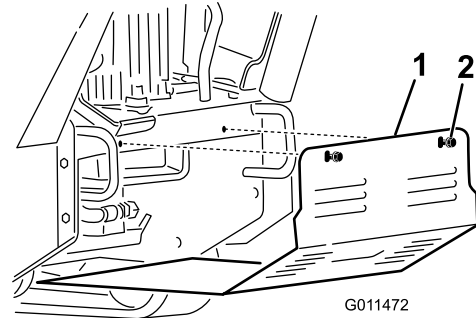

Figure 27
2. Loosen the two bolts securing the bottom shield sequentially until the shield is free (Figure 27).
2. Slide the bottom shield into the machine so that it rests on all 4 tabs (Figure 27).